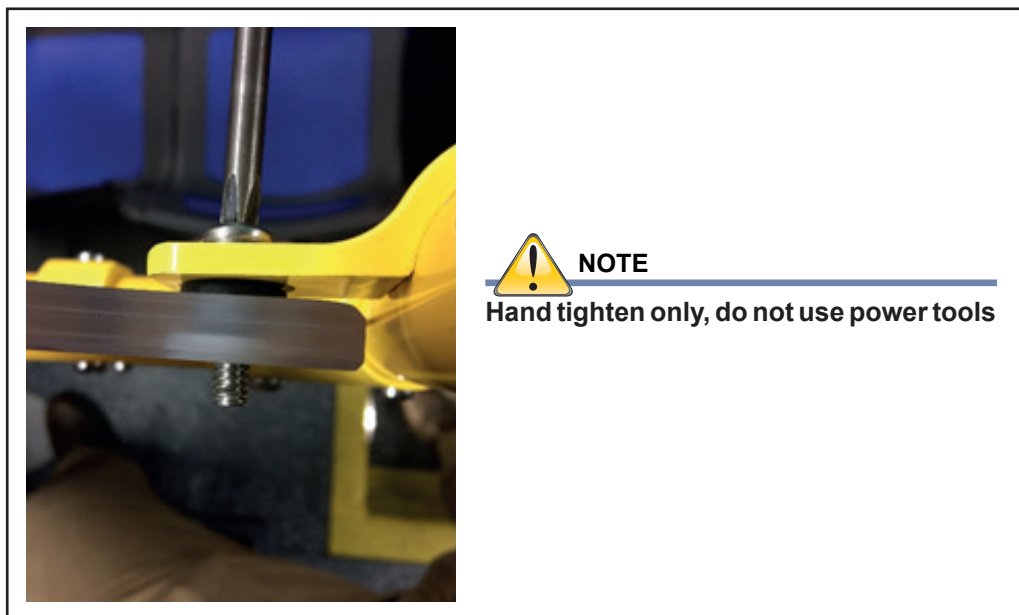

Figure 5 - Installation of Screw and Washer
- 1.8. Install new screw P/N N15548, reuse existing Washers and Nut (see figure 5).